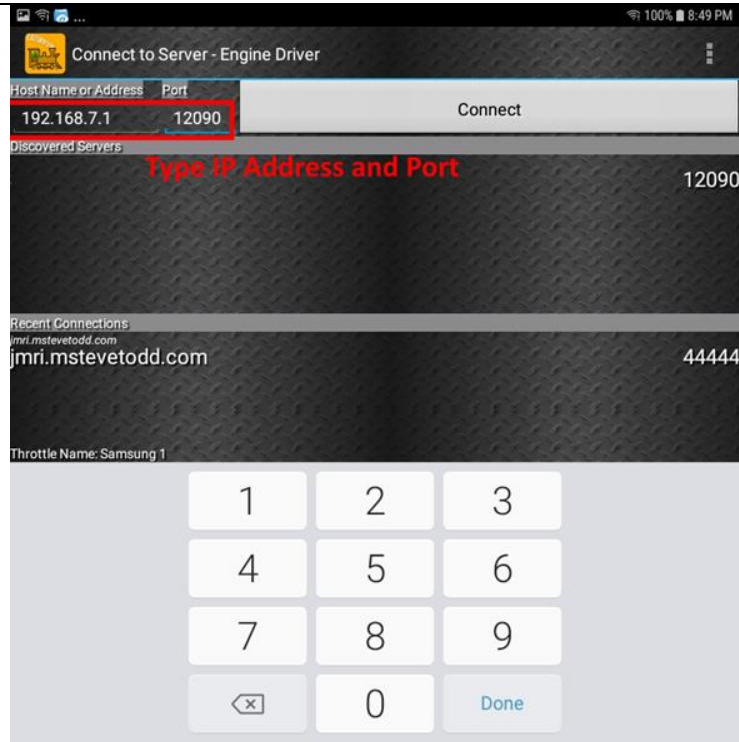

Figure 17 Connecting manually to the WFD-27 WiThrottle Server
- (11) **Only if the WFD-27 is not discovered** for some reason, after waiting a few moments, you must type the IP Address of the WFD-27 unit always 192.168.7.1 in the “Server Address” box at the top-left and the port value of 12090 in the port textbox as Figure 17, then tap the “Connect” button.